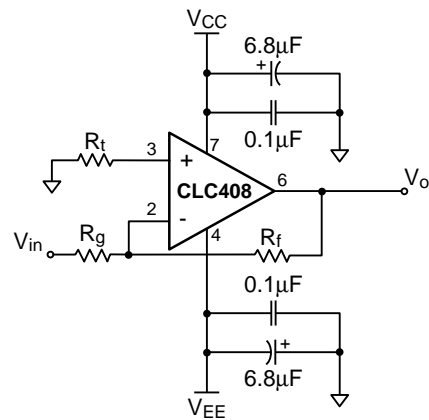

Figure 2: Inverting Gain
shown in Figure 2 is: $A_v = -\frac{R_f}{R_g}$
- Place a 50 to 200 Ω resistor between the non-inverting pin and ground (see R_t in Figure 2)